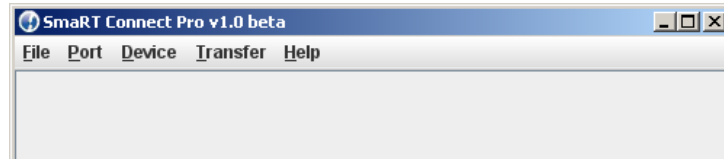

Figure 7
5. Double-click the SmaRT Connect shortcut. The **Main console window** displays as shown in Figure 7.